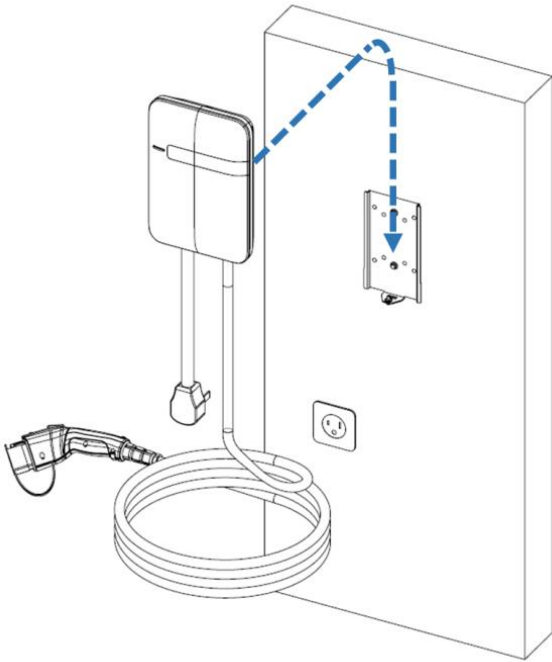

Figure 2-3 Charging station and mounting bracket
- 4. As shown in Figures 2-3 & 2-4, mount the charging station onto the mounting bracket and secure the lock screw.